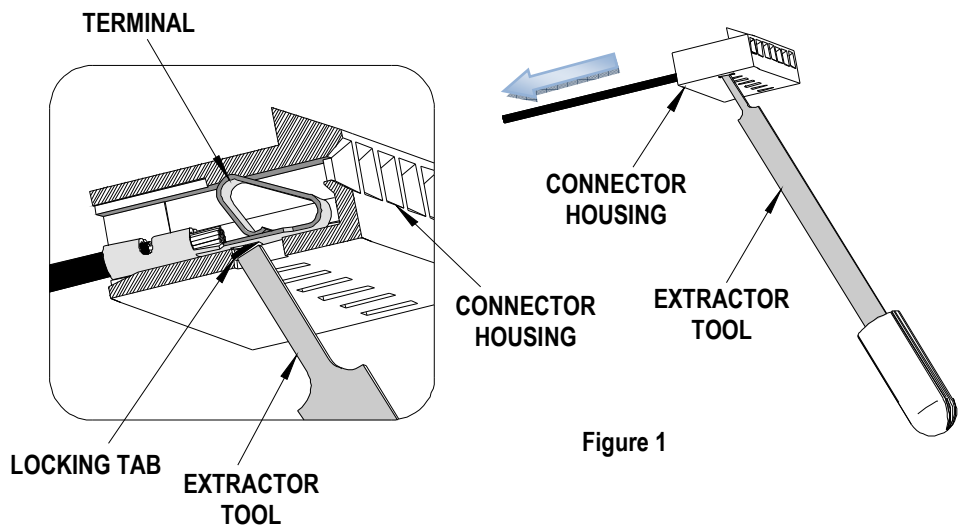

Figure 1
1. Insert the Extractor Tool into the slot on the bottom of the connector housing as shown in Figure 1.